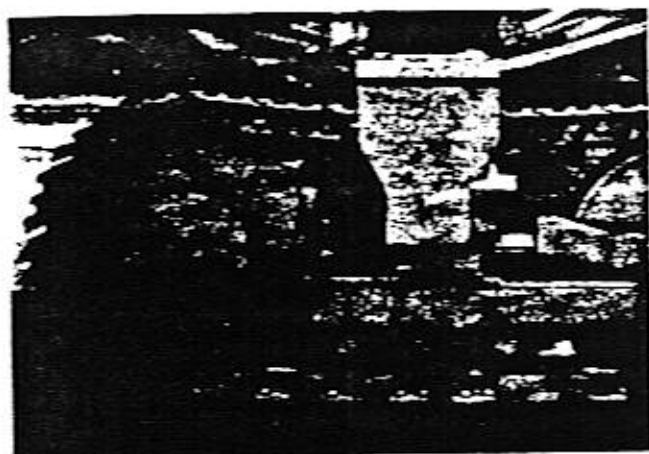

Figure 12-2
1. Position the machine on level ground, apply the parking brakes, chock the machine and remove the two (2) plugs from each of the gearboxes. See Figure 12-2.